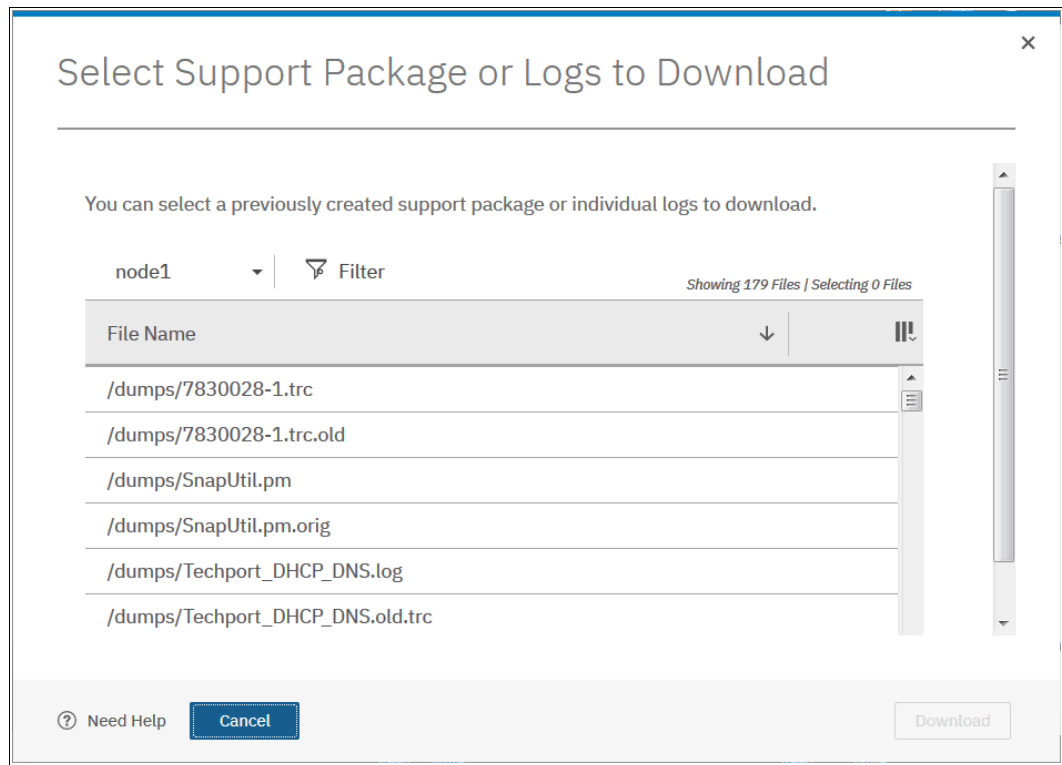

Figure 12-26 Full log listing option
2. Clicking **Download Existing Package** takes you to the next option, where you can select the different kinds of Support packages and all the available log files that are stored on the configuration node, as shown in Figure 12-26.